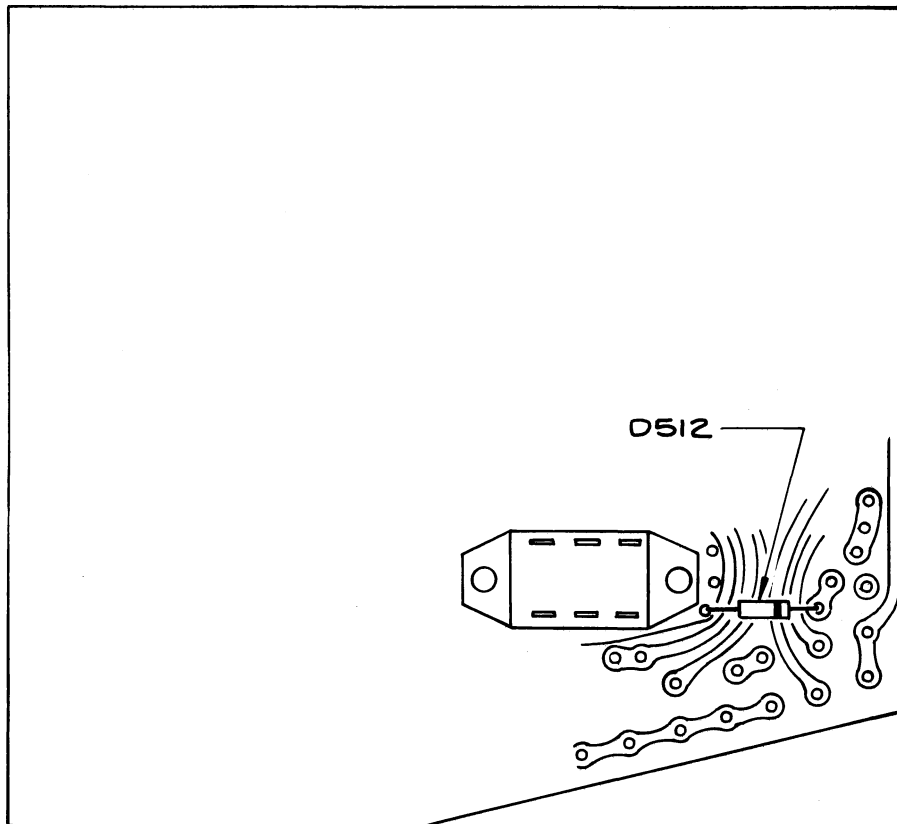

FIG. 1
- 1) Remove D512, a 6185 diode, from its location as shown in Fig. 1.